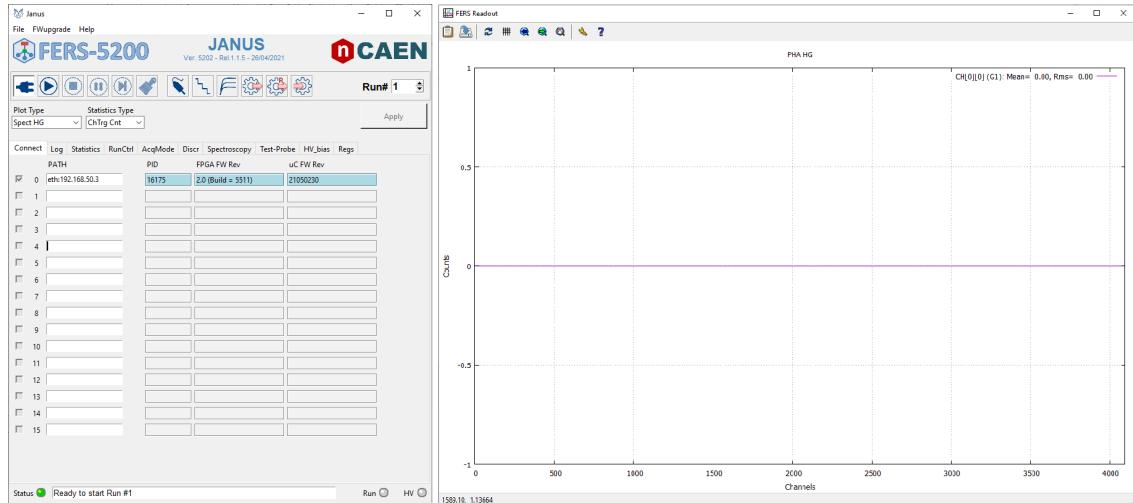

Fig. 10.16: Janus GUI starting interface when the connection is correctly established.
- The connection between the software and the board is established and the *gnuplot* graphic interface is opened as in Fig. 10.16.